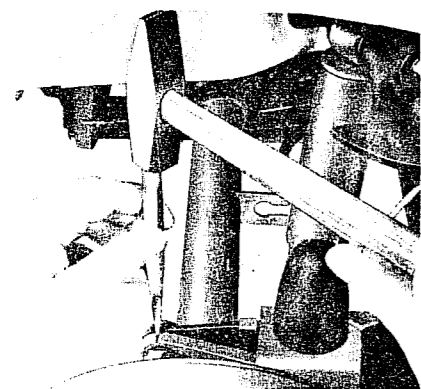
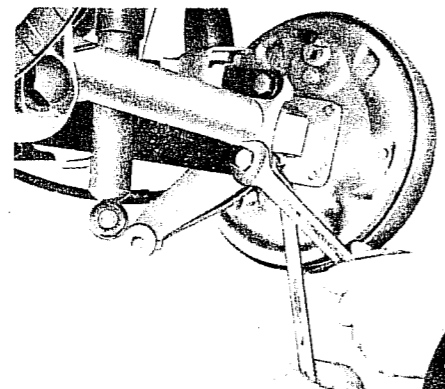

Fig. F.5. Marking the relative positions of the bearing housing and spring plate before removal - Swing axle.
Fig. F.6. Detaching the spring plate from the axle tube. - Swing axle.
3. Mark the position of the spring plate in relation to the bearing housing with a punch or chisel (Fig. F 5). Remove the 3 bolts which attach the spring plate to the bearing housing (Fig. F 6).